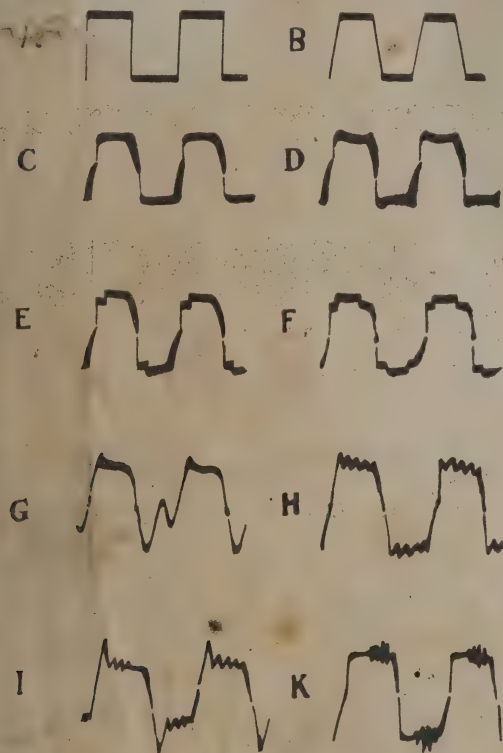

Fig. 6.
secondary transformer terminals is a square wave as shown in Fig. 6 at (A), but as some time must be allowed between break and make the vertical lines must be replaced by slightly sloping ones as at (B). The nearest practical approach to this ideal is shown at (C) and (D) for non-synchronous and synchronous vibrators respectively. The corner pips in (D) are due to voltage drops in the primary when the secondary load is connected. The flats or make
If the vibrator buzzes but the H.T. is low the probability is that it is "single footing" (Fig. 6 (G)) and a substitute should be tried. If the H.T. is now correct we can remove the vibrator from its screening can and inspect the contacts.